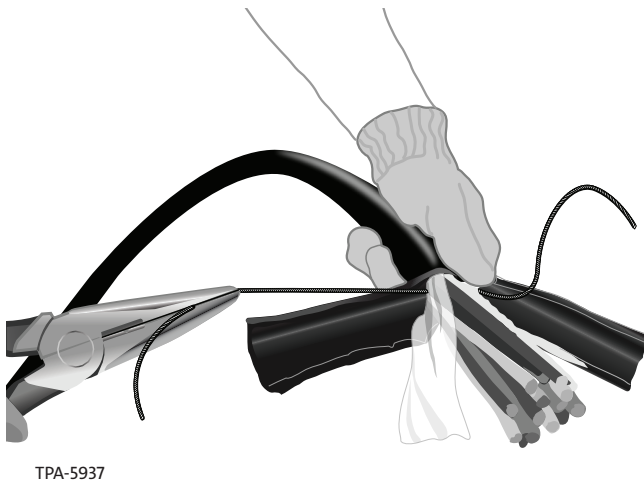

Figure 15
Step 5: Locate both rip cords between jacket and water-blocking tape (Figure 15).